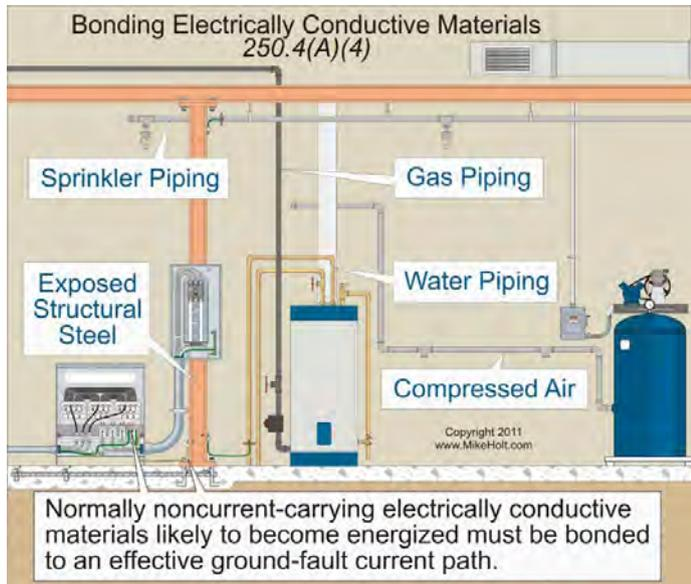

Figure 250-16
(4) Bonding Conductive Materials. Electrically conductive materials such as metal water piping systems, metal sprinkler piping, metal gas piping, and other metal-piping systems, as well as exposed structural steel members likely to become energized, must be connected to the supply source via an equipment grounding conductor of a type recognized in 250.118. **Figure 250-16**